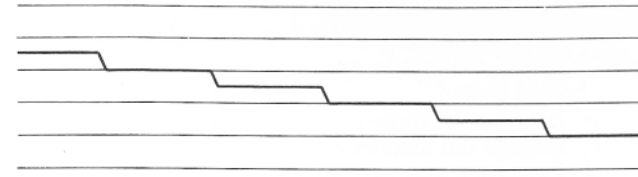

Figure 20. Single-Shot Adjusted Correctly
- The resulting graph should be similar to Figure 20.